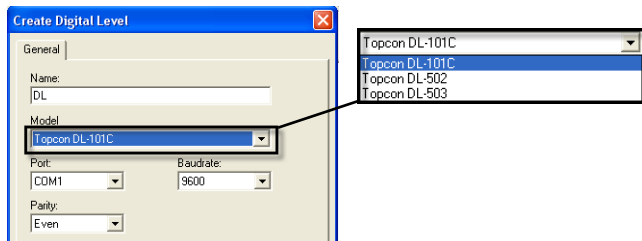

Figure 3-48. Topcon Digital Level Properties
4. On the *General* tab, enter *Name*, select the desired Digital Level model, specify the *Port* the device is connected to, the *Baud Rate*, and *Parity* used for communication (Figure 3-48). Click **OK**.